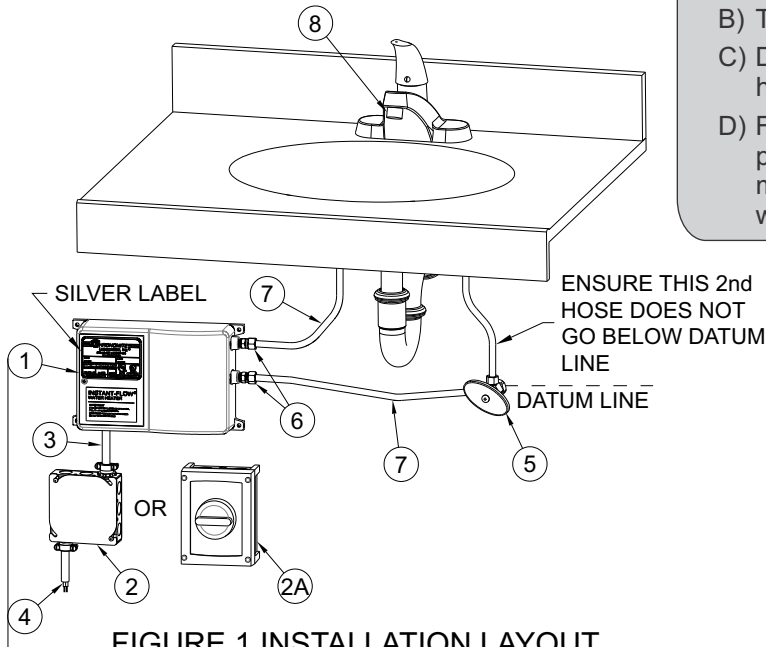

FIGURE 1 INSTALLATION LAYOUT
2. Mount unit horizontally against the wall so the silver label reads correctly (See Figure 1). Use level to ensure unit is level and mount with four screws through the flanges located on each corner using molly anchors or fasteners.
3. Connect plumbing. Use female 1/4" NPT or hose with 3/8" compression at cold water inlet and hot water outlet to 3/8" compression faucet inlet connections (See Figure 1). **DO NOT APPLY HEAT TO THESE FITTINGS.**